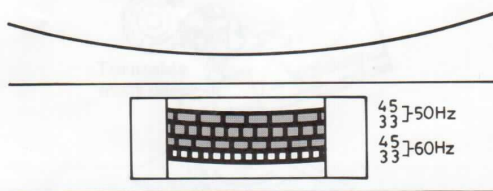

Fig. 12
- e. Adjust the speed accurately using the pitch (PITCH) control and stroboscope. Turn the pitch control from side to side until the stroboscope pattern seems to stop (Fig. 12).